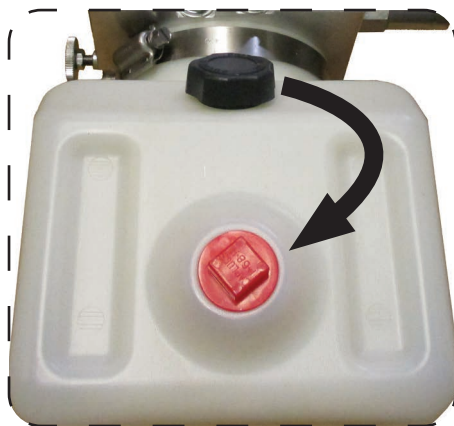

Figure 13
23. Remove red shipping plug from hydraulic fluid reservoir and install black breather cap. Discard red shipping plug. See Figure 13.